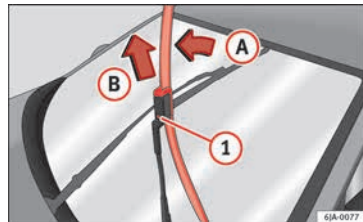

Fig. 69 Windscreen wiper blades.
- Lift the windscreen wiper arm away from the glass moving the blade slightly in the direction of the arm – arrow (A) » » Fig. 69.
- Unlock the catch (1) with the other hand and remove the blade in the direction of arrow (B).